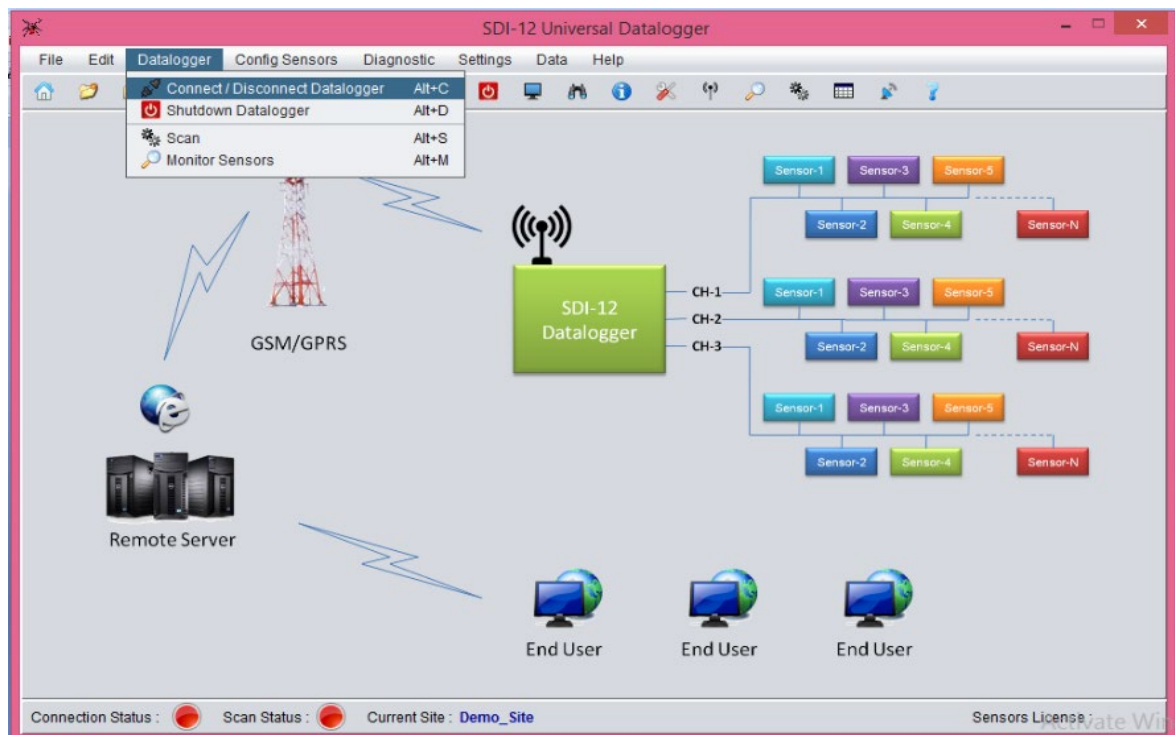

Figure 7-3 Datalogger menu of EDSL-30UNI Configuration Manger Software
- 3 Then click “Datalogger” followed by “Connect/Disconnect Datalogger” as shown in figure 7-3 below.